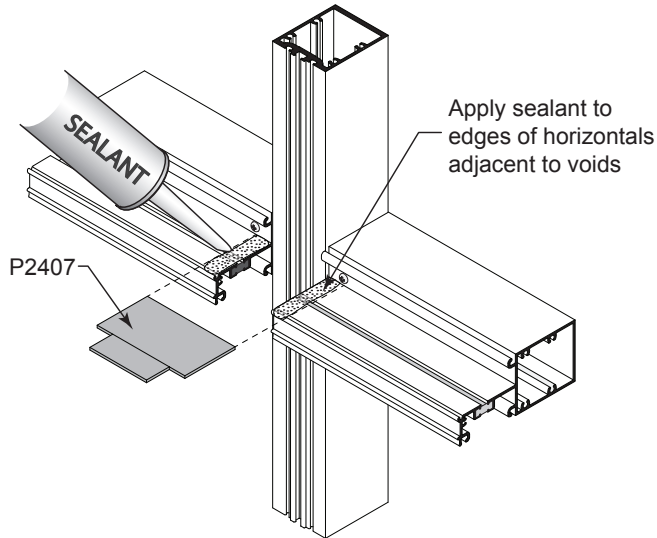

Fig.52.1
- B. Apply silicone to horizontal glazing pocket where the water diverter will be resting. See **Fig 52.1**